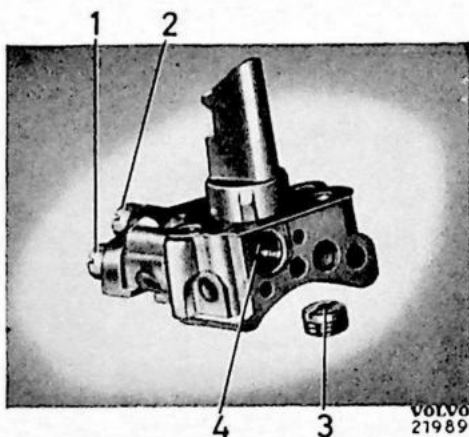

Fig. 69. Emulsion block.
3. Remove the screws (11) for the emulsion block, remove the block and take out the main jet (2, Fig. 69), the compensation jet